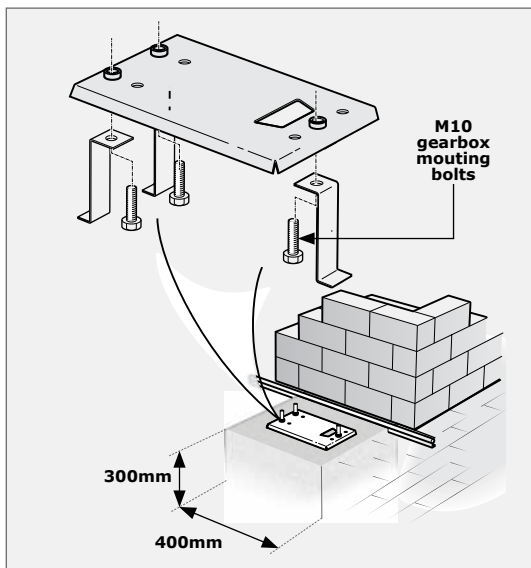
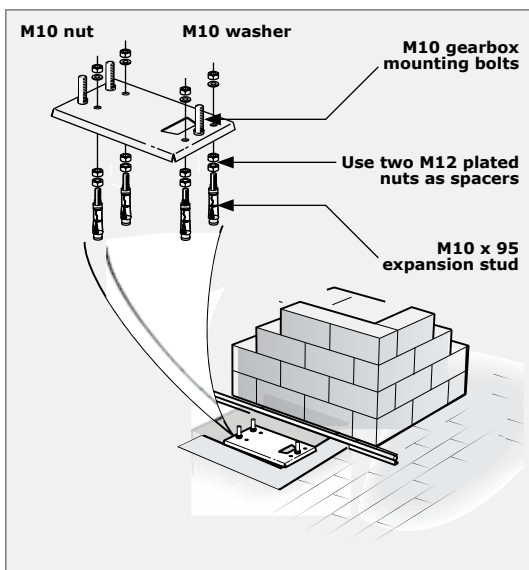

FIGURE 12
FIGURE 14
1. The foundation plate can either be set into a concrete foundation, as in Figure 12 or bolted down onto an existing concrete plinth as in Figure 14.
2. Make sure that all cables and conduits protrude at least 400mm above the baseplate once installed as shown in figure 14.